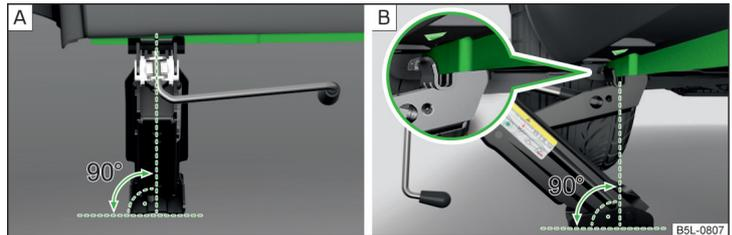

Fig. 176 Attach lifting jack
- Support the base plate of the jack with its full area resting on level ground and ensure that the jack is located in a vertical position at the jacking point » Fig. 176 - [A].
- Position the lifting jack below the jacking point with the crank and move it up until its claw encloses the web » Fig. 176 - [B].